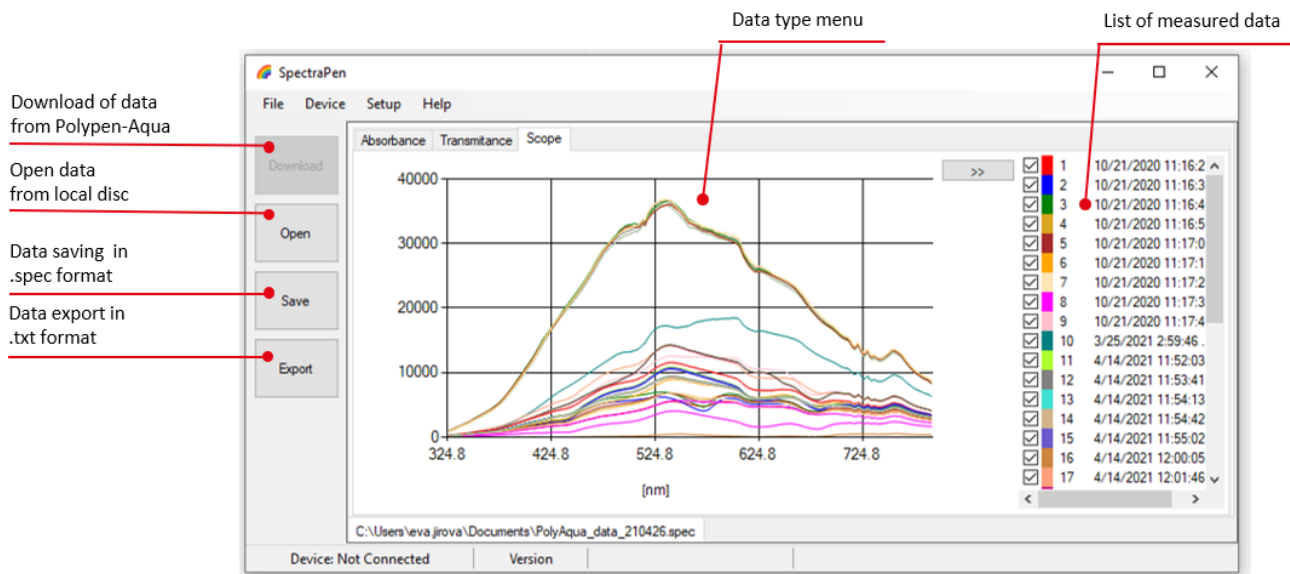

Fig. 27 Scope spectra.
5. Visualization modes: **Scope** (Fig. 27) mode window is always displayed as the default. To visualize the measured data in transmittance or absorbance mode, go to **Transmittance** or **Absorbance** bookmark.
6. All data that are downloaded are displayed in the Scope window after download from the PolyPen. The user can select the set of measurements to be displayed by marking and unmarking the data from the **selection** list. See selection in the list of measured data in Fig. 27.